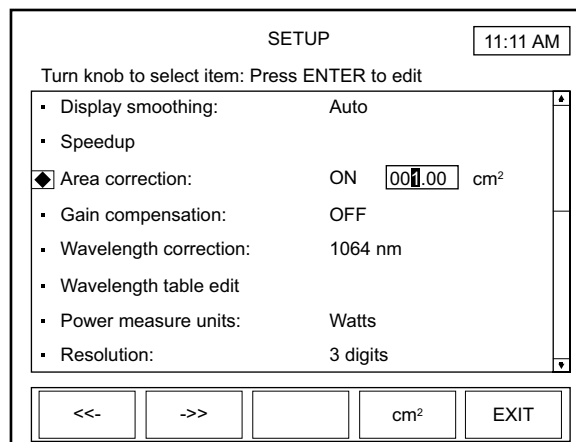

Figure 4-42. SETUP: Area Correction
2. Press the ENTER/SET button to highlight the editable field (Figure 4-42).
If you select ON as the Area Correction value, pressing the ENTER/SET button will display the range field (shown as 001.00 in Figure 4-42, above) and the unit of measurement (cm^2 in Figure 4-42). Continue to step 5.